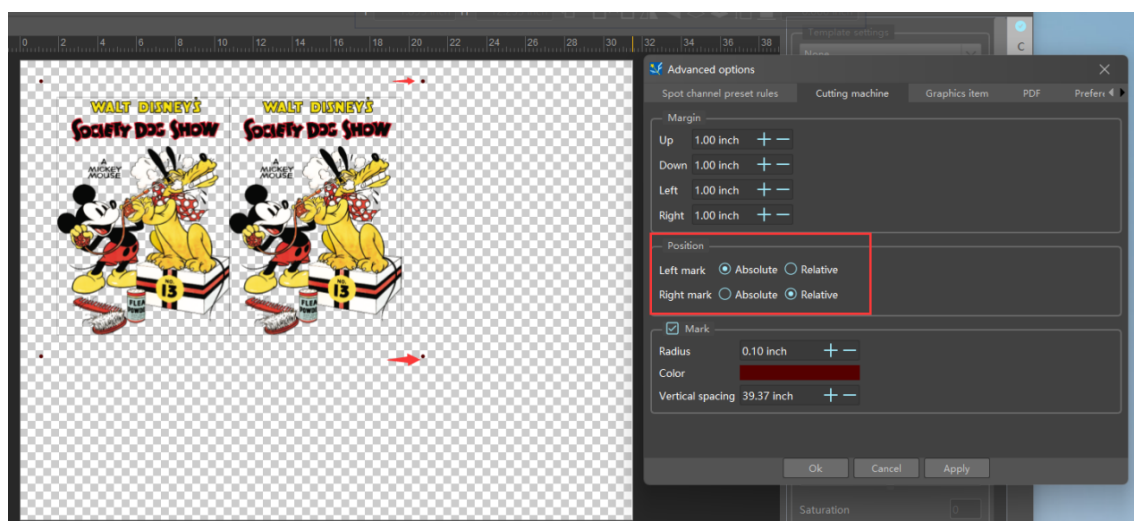

Figure 2.26
(1) Figure 2.26 is the effect of selecting the right locator or mark (Relative Position).